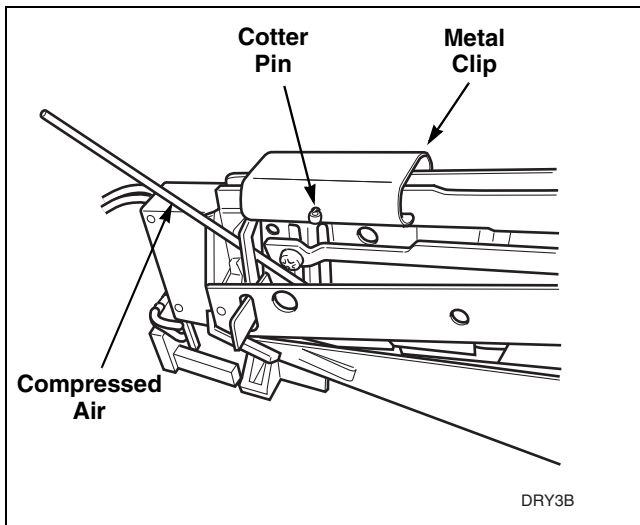

Figure 18
- c. If lint is preventing coins from rolling through coin drop, blow compressed air through coin drop, and along the side of the coin drop. Refer to *Figure 18*.
- e. Remove cotter pin from top of drop. Refer to *Figure 18*. Save pin for reinstallation when cleaning is complete.
- f. Move metal clip closer to sensor so that it comes off frame. Refer to *Figure 18*.